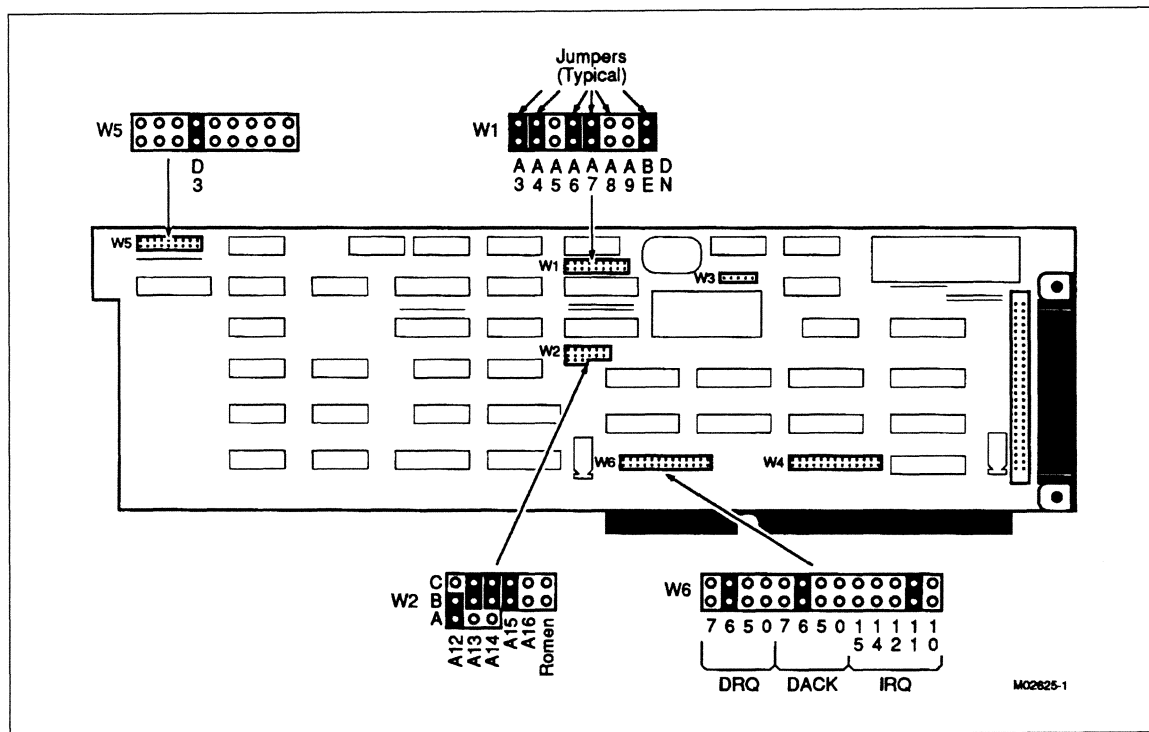

Figure 7-7. Jumper Strap Locations on SE SCSI Board for Card Slot 3
- ___ a. If installing a new SE SCSI board in card slot 3, set its jumper positions to those of the card removed from the same slot. These positions are as follows (see also figure 7-7).